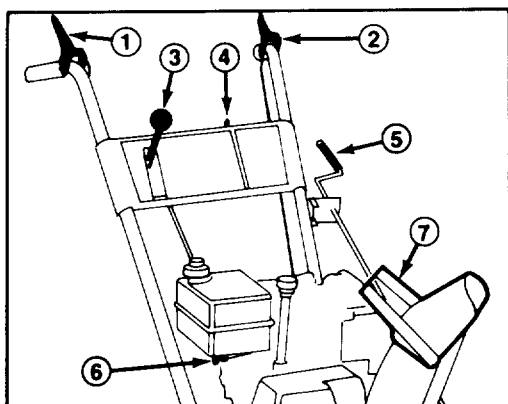

Figure 13
**Auger Drive Control** (Fig. 13) — Control has two positions: ENGAGE and DISENGAGE. To engage auger and impeller, compress lever against right handle grip. To disengage, release lever.
**Traction Control** (Fig. 13) — To achieve traction, lever must be compressed against left handle grip. To stop traction, release lever.
**Speed Selector** (Fig. 13) — The control has four positions: reverse, 1, 2 and 3. To change speeds, move gear shift to position desired. Lever will lock in notch at each speed selection. Use positions 1, 2, and 3 depending on snow conditions.
**Ignition Switch** (Fig. 13) — Switch has two positions: ON and OFF. Rotate key to ON before starting engine with the recoil starter. To stop engine, rotate key to OFF.
**Throttle** (Fig. 13) — Moving the throttle upward increases engine speed. Use only enough engine speed to throw snow to the place desired.
**Chute Deflector Handle** (Fig. 13) — Deflector handle is on top of discharge chute and it is used to control height of the snow stream.
3. Open fuel shut-off valve below fuel tank (Fig. 13).
5. Rotate ignition key to ON (Fig. 13).
1. Release traction and auger drive control (Fig. 13).